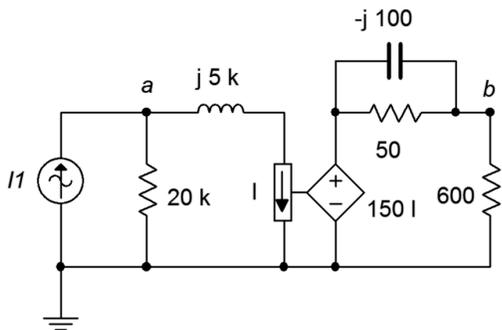

Figure 5.20
39. Determine  $v_a$  and  $v_b$  in the circuit of Figure 5.20 if the source  $I = 2E-3\angle0^\circ$ .
40. In the circuit of Figure 5.20, determine the current flowing into the  $600\ \Omega$  resistor if  $I = 1E-3\angle180^\circ$ .